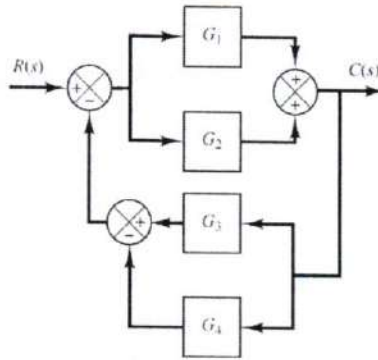

Figure 4. Block diagram of a system
1. a. Simplify the block diagram to obtain the transfer function, $C(S)/R(S)$, for the system shown in figure 4. [4]